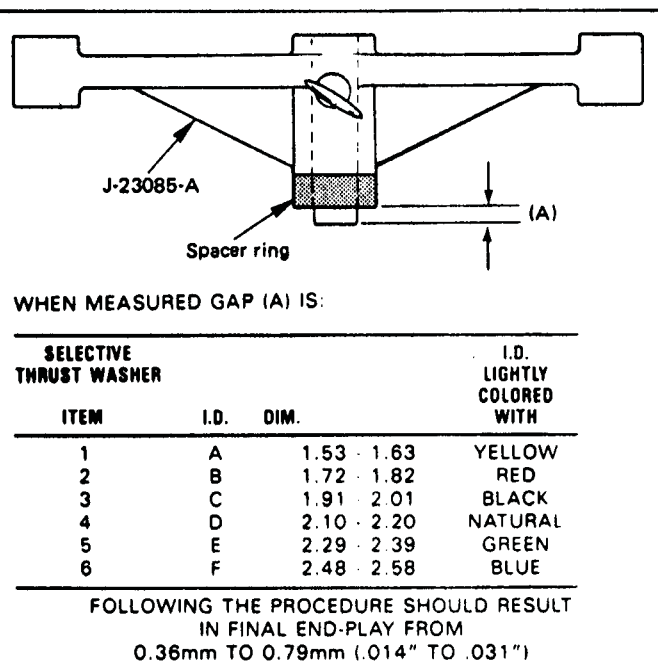

Figure 100
4. Fit the spacer ring on the inner shaft of the tool, as shown in Figure 100.
5. Measure distance (A) as shown in Figure 100.
6. Select appropriate size thrust washer from the chart in Figure 100.